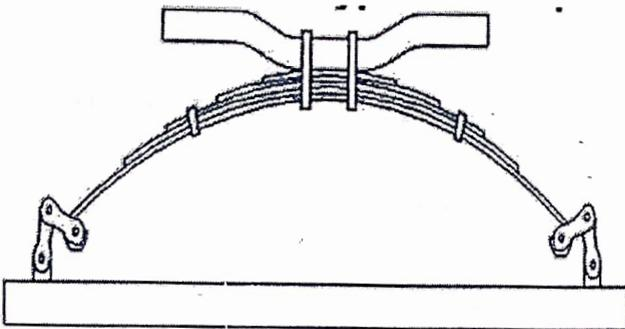

Figure 1
3. Identify the type of leaf spring in figure 1 below;